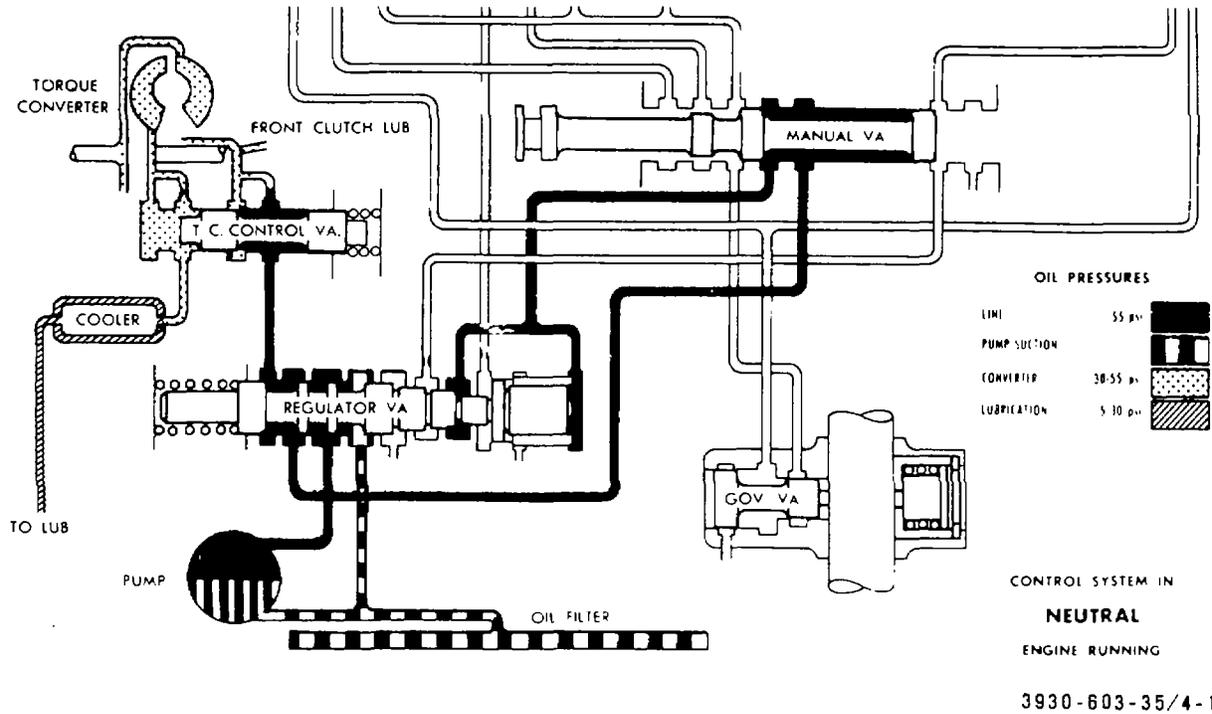

Figure 4-1. Neutral hydraulic circuits
a. The Hydraulic Control Circuits, figures 4-1 through 4-8 shows position of various valves with coded passages to indicate those under hydraulic pressure for all operations of transmission.
- (1) *Pressure supply system.* The pressure supply system consists of an oil pump driven by engine through torque converter. The single front pump furnishes pressure for all hydraulic and lubrication requirements.
- (2) *Pressure regulating valves.*